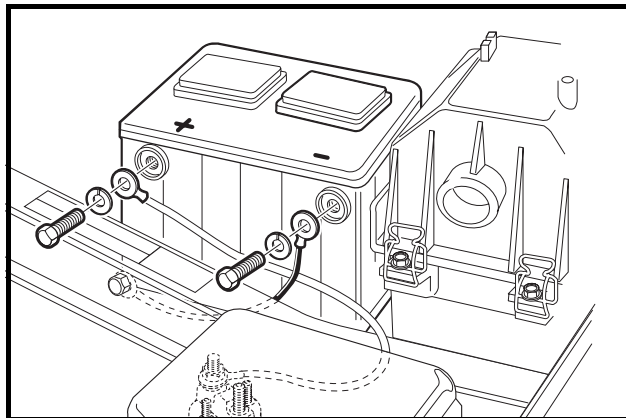

Figure 25 Battery
The battery in a Husqvarna vehicle is a 12-volt, low-maintenance battery that requires infrequent checks (**Figure 25**). Electrolyte level should be checked semiannually.
5. Use a flat blade screwdriver, and carefully remove the battery cell caps from the battery (**Figure 25**). **See following WARNING.**